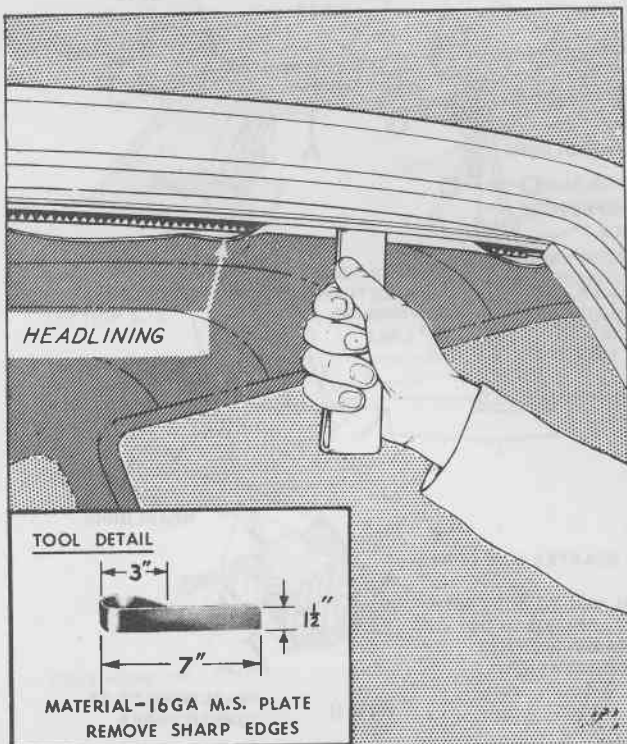

Fig. 10-5
2. Using a putty knife or special tool (see Fig. 10-5) fabricated from 16-gauge sheetmetal, ease the headlining retainer out from the roof rail by inserting the tool between rail and retainer as shown.
1. Using a putty knife or special tool as illustrated in Fig. 10-5, tuck headlining up between roof rail and retainer to engage on saw teeth.